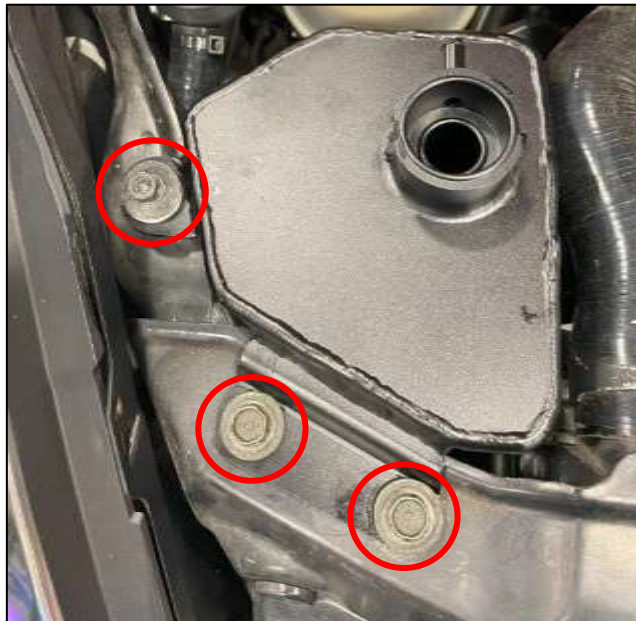

Figure 67
12. Using the OE Hardware removed in *Step 2*, and *Section One: Disassembly, Step 20*, secure the Coolant Overflow Tank to the vehicle. Torque the single bolt to **34 ft-lbs.**, and the (2) two Core Support Bolts to **17 ft-lbs.** *Figure 67.*